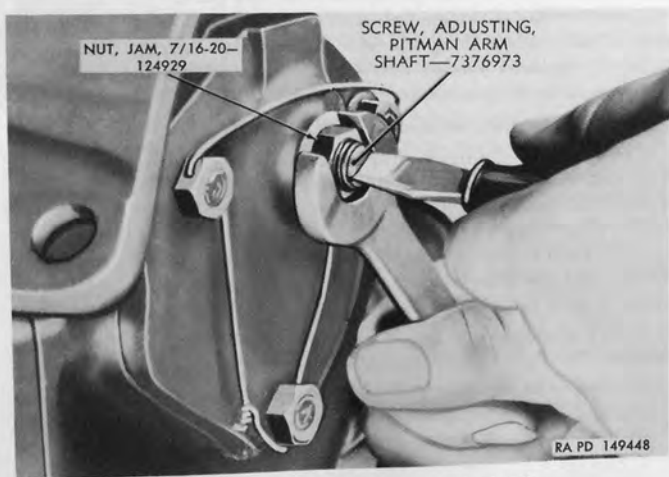

Figure 203. Adjusting Pitman arm shaft lash.
- (5) After shaft bearings are adjusted, Pitman arm shaft lash adjustment must be made (*d* below).
- d. Pitman Arm Shaft Lash Adjustment* (fig. 203).
- (1) Check tightness of side cover bolts.
- (2) Center steering mechanism as previously marked in *b* above.
- (3) Turn Pitman arm shaft adjusting screw in to remove all lash between gear teeth. The amount of backlash can be determined by pushing backward and forward on Pitman arm. When all backlash has been removed, tighten adjusting screw jam nut.
- (6) After adjustment is made, install lock wire through heads of side cover bolts as shown in figure 203.